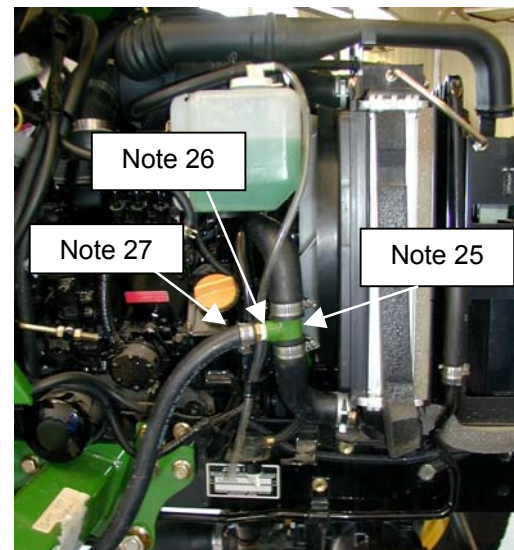

Figure 25
25. Measure and cut the 5/8" heater hose that routes (supply line) from the left (driver side) of the cab to the thermostat-aluminum-hose nipple fitting. Plastic elbow #3-10282 should be used at the bottom of the cab tubes. See Figure 25.
26. The lower radiator hose will need to be cut for installation of the lower radiator hose "T" fitting #7-11308. See Figure 25.
27. Install 5/8" hose to NPT fitting #3-12119 into the lower radiator hose "T" fitting. See Figure 25.
28. Measure and cut the 5/8" heater hose from the right side (Return Line) of the cab with the 90-degree elbow #3-10282 to the lower radiator hose "T" nipple fitting. See Figure 25.